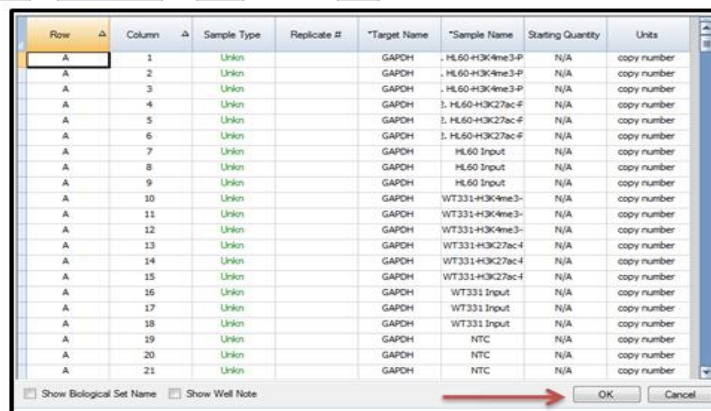

Figure 29: Imported plate layout
5.8. The table will populate as shown in Figure 29. Click OK.